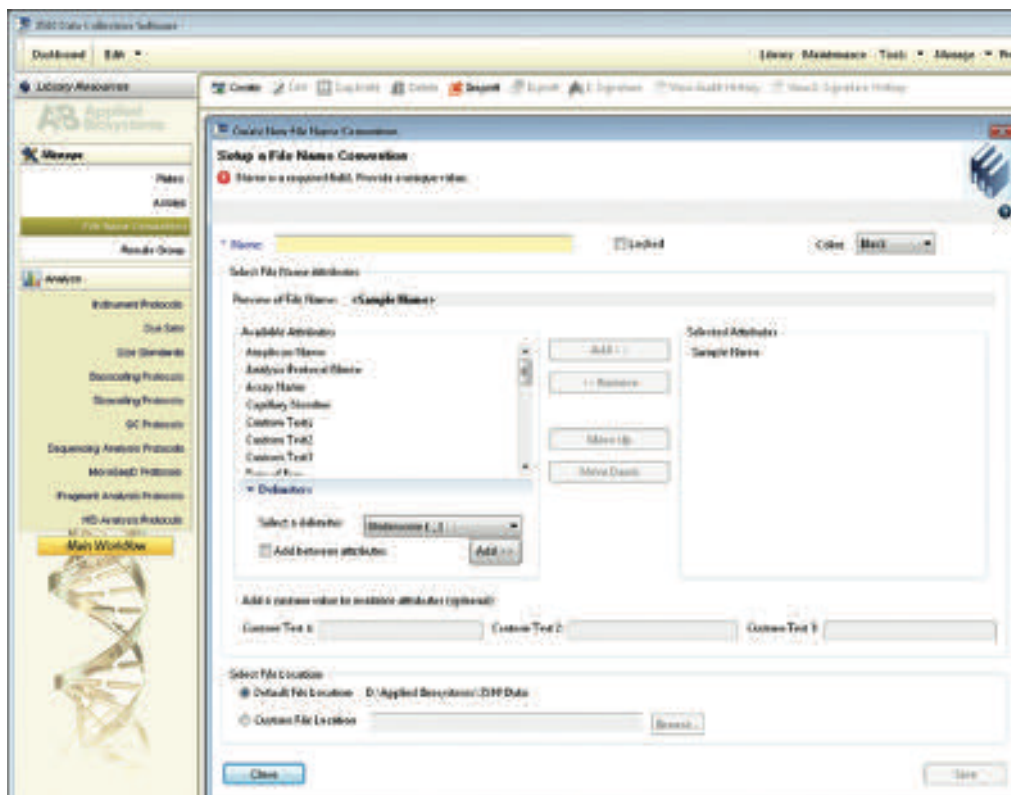

Figure 10. The Create New File Name Convention window.
- 2.e. To create a new File Name Convention (Figure 10), navigate to the Library. Select “File Name Conventions”, and then select “Create”. Alternatively, a previously created File Name Convention may be used. Select the File Name Attributes according to your laboratory practices, and save with a descriptive name.